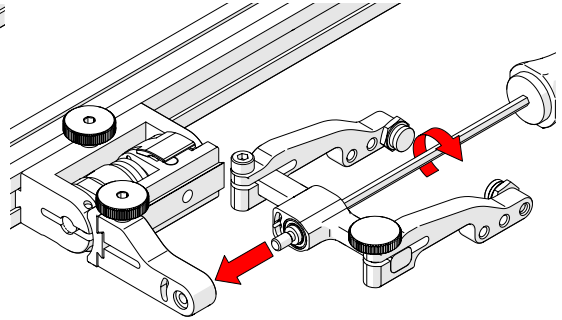

Fig. 97 - Install yoke to swing arm
6. Using the 3 mm hex driver, screw the yoke pivot screw into the opposite side of the probe holder swing arm (*Fig. 97*). Ensure the yoke is level to avoid issues with the plunger/set screw.